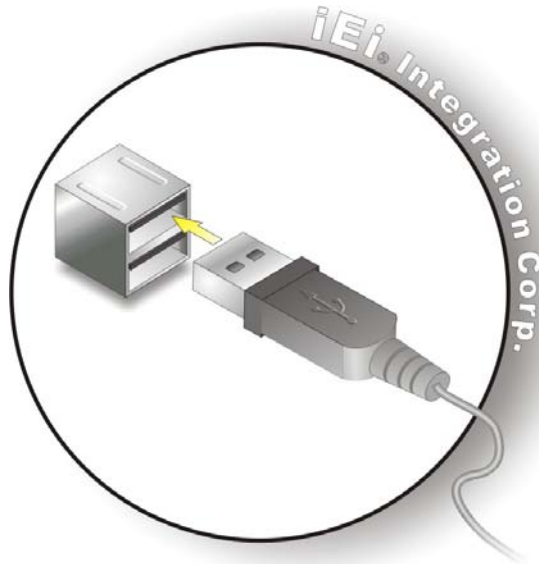

Figure 3-26: USB Device Connection
Step 2: Align the connectors. Align the USB device connector with one of the connectors. See **Figure 3-26**.